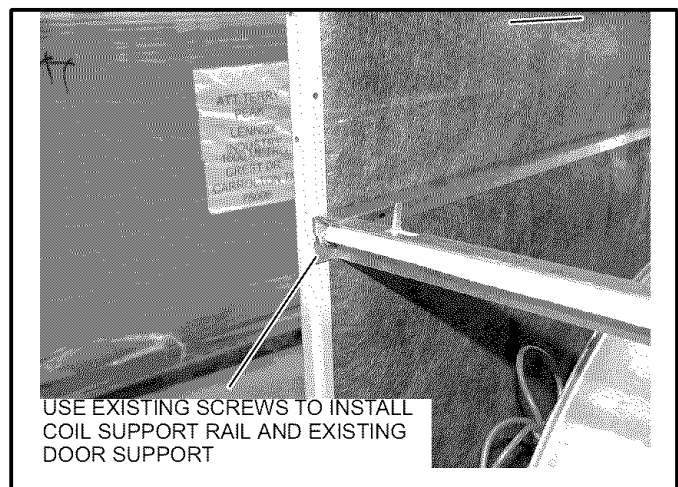

Figure 5. Secure Front of Coil Support Rail
- Use the existing screws to secure the front of the coil support rails and the existing door support (see figure 5).